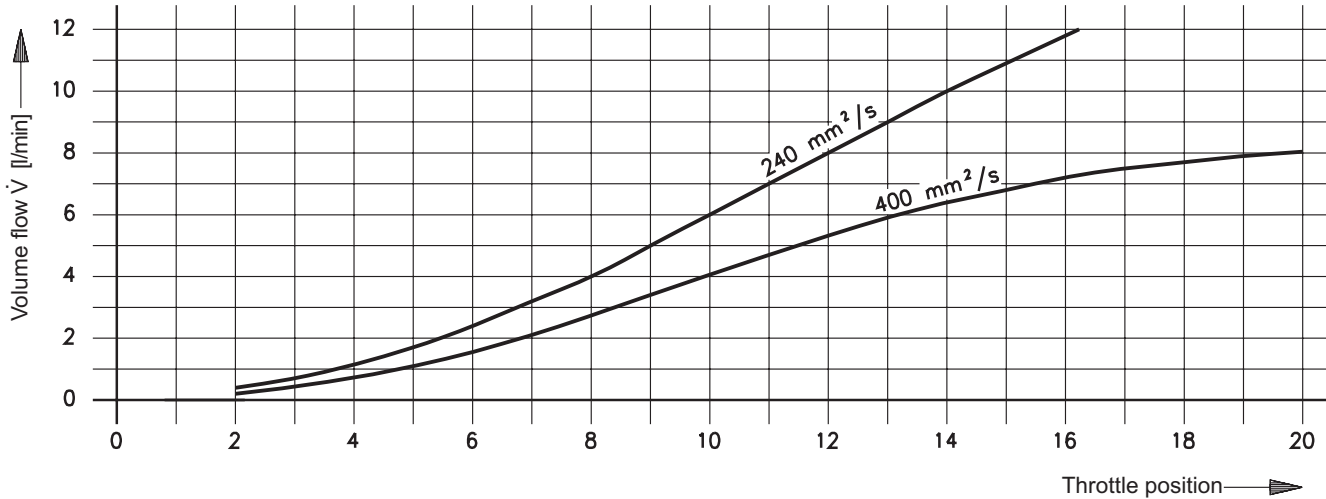

Figure 7
- Adjustable volume flow: 0,5 ... 12 l/min (Viscosity dependent see diagram figure 7)